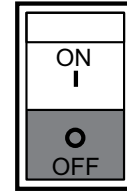

Figure 54. Circuit Breaker OFF (GFCI Test)
7. Also verify that the main circuit breaker (Figure 54) switch trips to the **OFF** position.